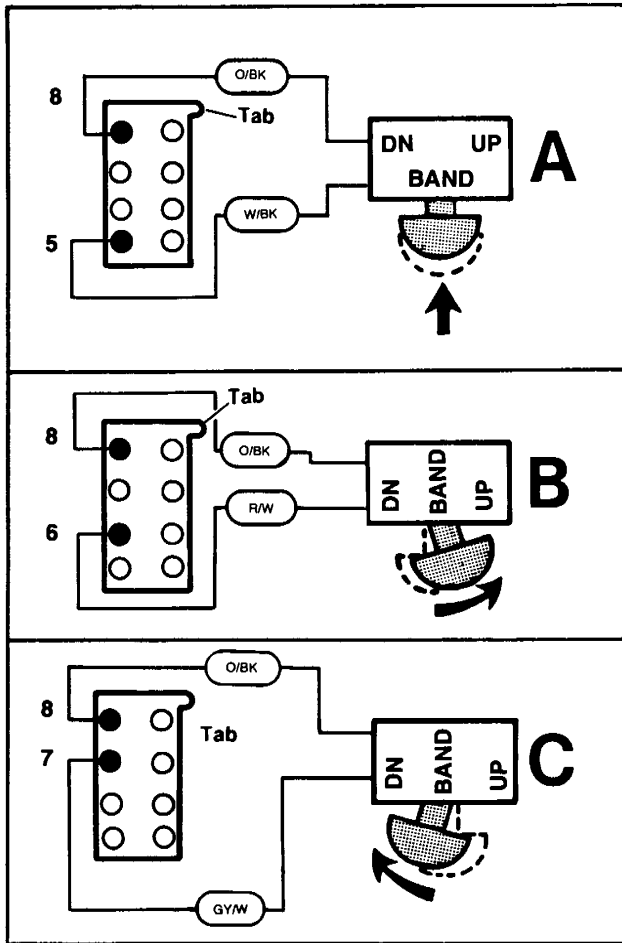

Figure 2-130. Function Switch Test
2. Refer to Figure 2-130, View A. With ohmmeter, place probes on pins (8) and (5) and push function switch straight inward. Meter should register zero ohms. A resistance reading significantly higher than zero indicates the switch contacts are not closing and the switch should be replaced. Release the switch control knob. The meter should now register infinite ohms. If the meter registers a reading other than infinite ohms, the contacts are not fully opening and the switch should be replaced.
3. Refer to Figure 2-130, View B and C. Place the meter probes on the pins and move the switch control knob in the direction shown. The meter should indicate zero ohms with the probes at appropriate connector pins. The meter should register infinite ohms when the switch knob is released.